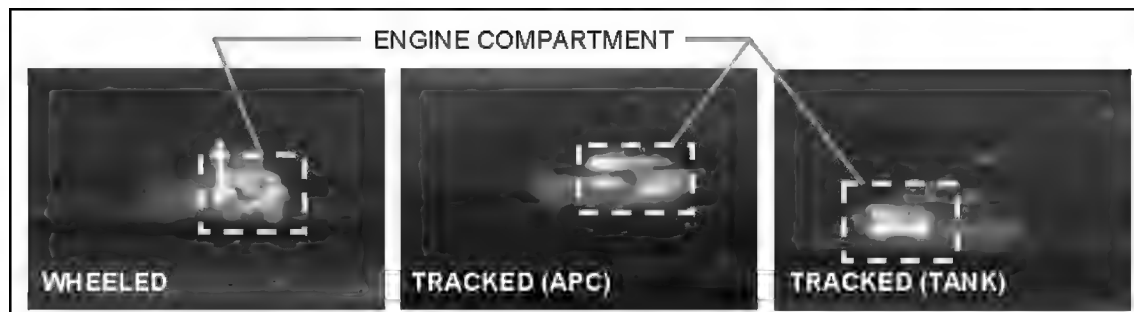

Figure E-57. Classification features—engine compartment location.
(2) **Engine Compartment** (Figure E-57).